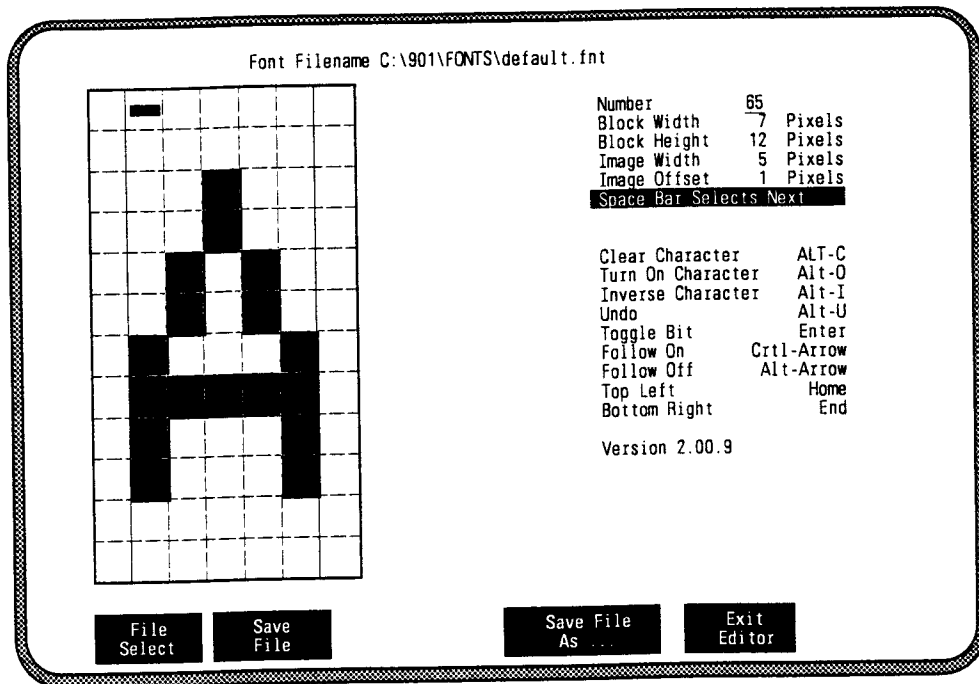

Figure 5-1. Font Editor Screen
7. The Font editor screen then appears. The screen for the supplied default Font file should look like Figure 5.1.